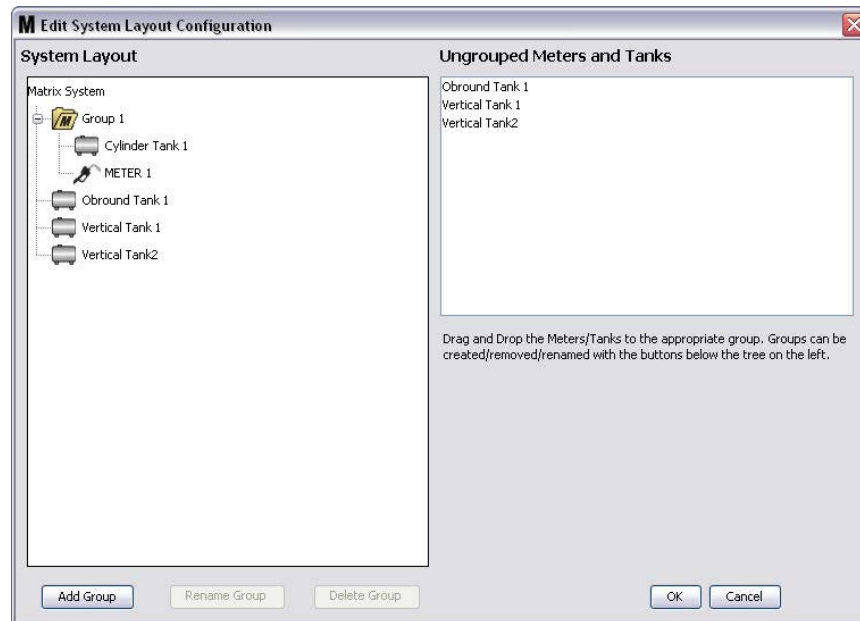

FIG. 142
- The selected tanks and meters now appear under the folder icon on the Matrix System side of the screen as shown in FIG. 142.
- To Rename a group, use your mouse to select the group folder on the list on the Matrix System side of the screen. Click the Rename Group button (FIG. 142).
11. To Delete an empty group, use your mouse to select the group folder on the Matrix System side of the screen. Click the Delete Group button (FIG. 142).